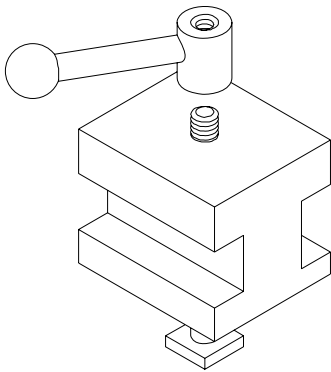
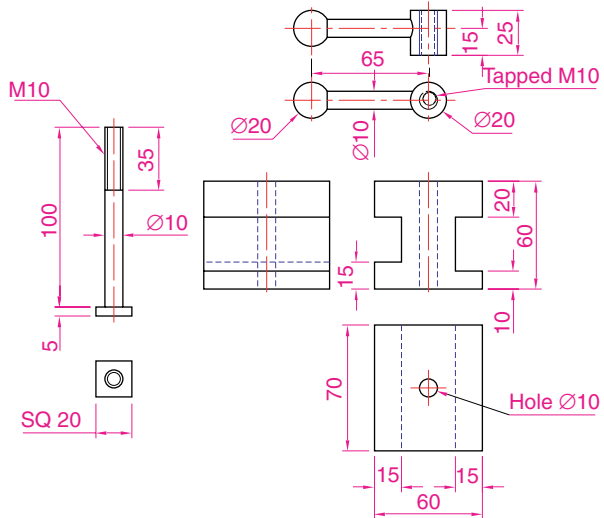

Fig. 7.26 Exercises 4 and 5 – an isometric drawing of the tool holder on which the two exercises are based
Fig. 7.27 Exercises 4 and 5 – orthographic projections of the three parts of the tool holder
- Construct a three-view orthographic projection in an angle of your own choice of the tool holder assembled as shown in the isometric drawing in Fig. 7.26. Details are given in Fig. 7.27.
- Construct an isometric drawing of the body of the tool holder shown in Figs 7.26 and 7.27.